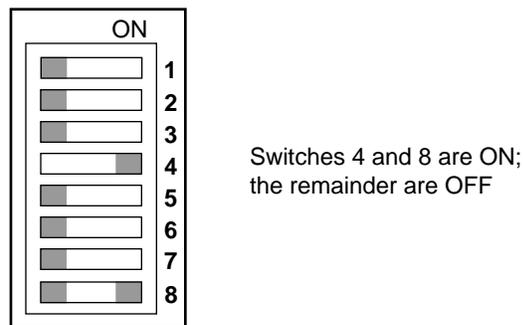

Figure 10-1 IRIS Front Panel Dip Switches
- On IRIS-4D/100, 4D/200, 4D/300, and 4D/400 Series workstations, set the front panel dip switches as shown in Figure 10-1.